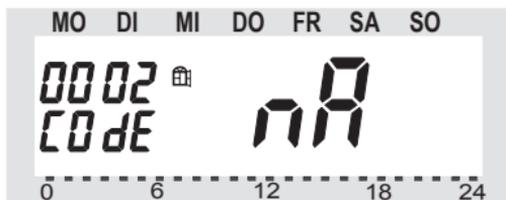

Figure 36
- Keep the 'FUNKTION' button pressed until 'code' appears on the display. See figure 36 on the next page.